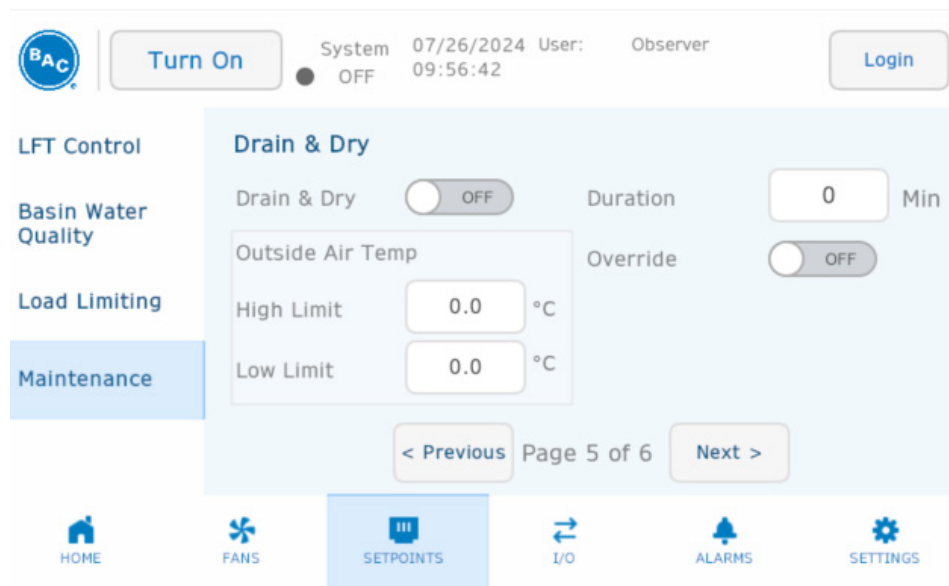
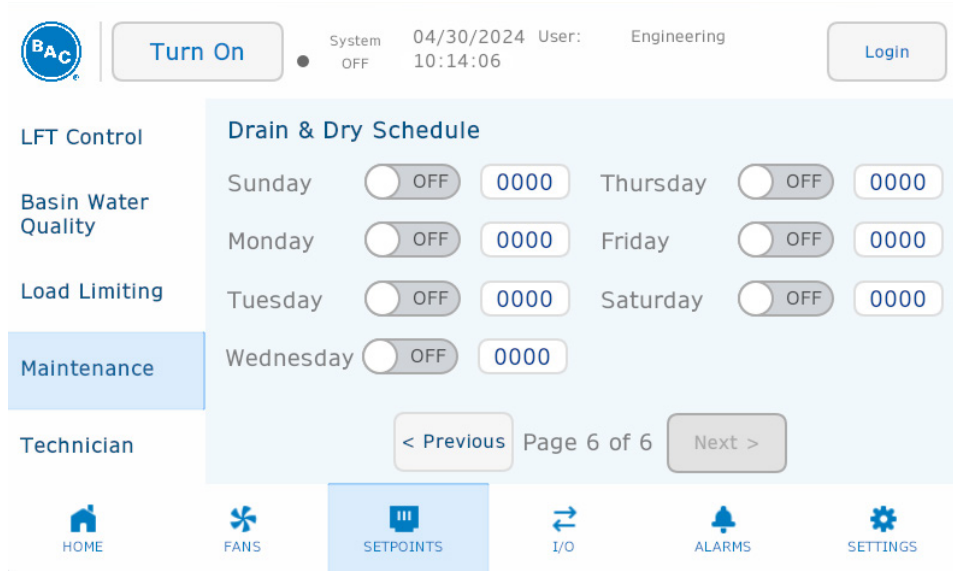

Figure 74. Setpoints Menu, Maintenance Page 5 of 6
Figure 75. Setpoints Menu, Maintenance Page 6 of 6
- Drain and Dry maintenance mode shown in **Figure 74** and **Figure 75** with parameters listed in **Table 21**.